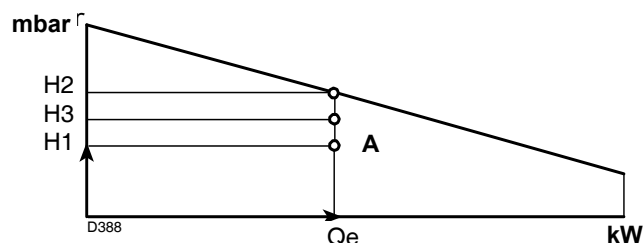

Fig. 41
point A that must remain within the firing rate (Fig. 41).
- 4 - Trace a vertical line from point A, Fig. 41, and find the maximum pressure H₂ of the firing rate.
If H₃ is greater than H₁, as in Fig. 41, the burner can produce the delivery requested.